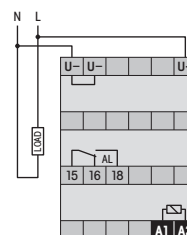

Fig.1 AC voltage endurance
Max. AC load AC-1 (Fig.1)	1250 VA
**Connection diagram****Fig.1 AC voltage endurance****Fig. 2 DC load limit curve****Dimensions [mm]****Technical approvals, conformities**